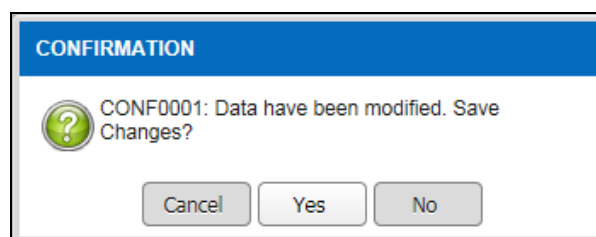

Figure 3.4.1-17 Confirmation Message
- Click on the  button and information message will be displayed as Figure 3.4.1-18